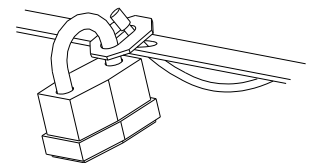

Figure 3
4. Slip the keyhole disc over the cable terminal and position it so that the bare portion of the cable, just behind the terminal, is inside the thin channel of the keyhole. Lock the cable to the structure using one of the following options as shown in Figure 3 or 4.